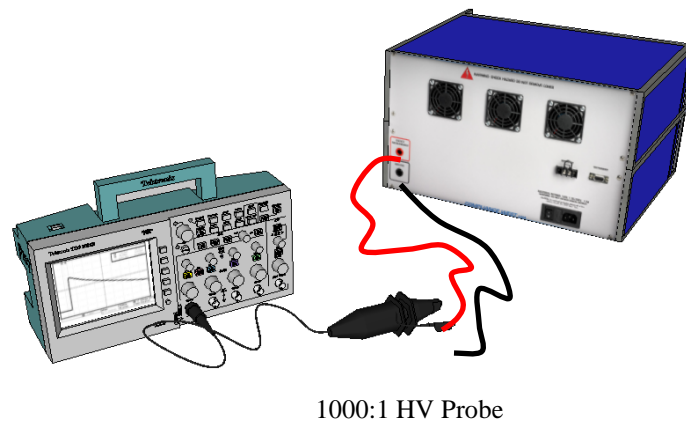

Figure 8 Energy Measurement with an External Acquisition System
Many medical equipment standards require energy measurements to be taken during surge testing. The D8-PF allows calculation of these measurements in two different ways; by using the automatic energy measurement system included in the tester or by connecting an external high voltage acquisition system to capture the pulse using the rear panel receptacles and manually calculating the energy using the formula shown in Figure 8.
**Note 1:** To calculate the energy, this automated measurement system uses the mathematical formula showed on figure 8, where  $R = 100\Omega$ .
The MegaPulse D8-PF tester is equipped with two high voltage connectors located on the rear panel to have access directly to the 100 $\Omega$  resistor, allowing energy measurements with an external high voltage acquisition system. The acquisition system must be capable of executing the advanced mathematical formula shown on Figure 7. Figure 8 shows an example of how to connect the external acquisition system.